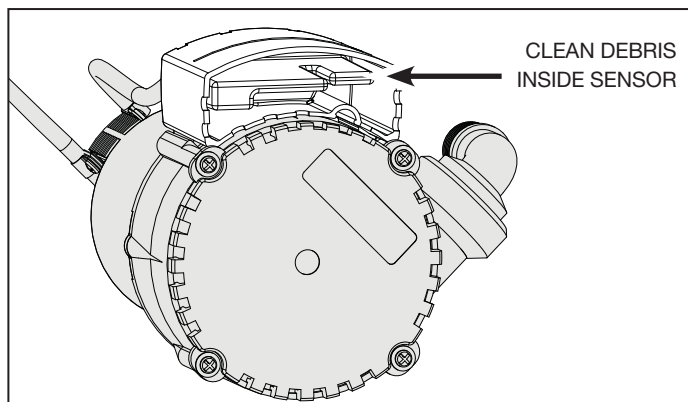

Figure 3 - Remove Debris From Sensor
7. If pump runs continuously, unplug the unit. Once unplugged, check for debris stuck inside the sensor body (Figure 3). Remove any trapped leaves, debris or dirt.